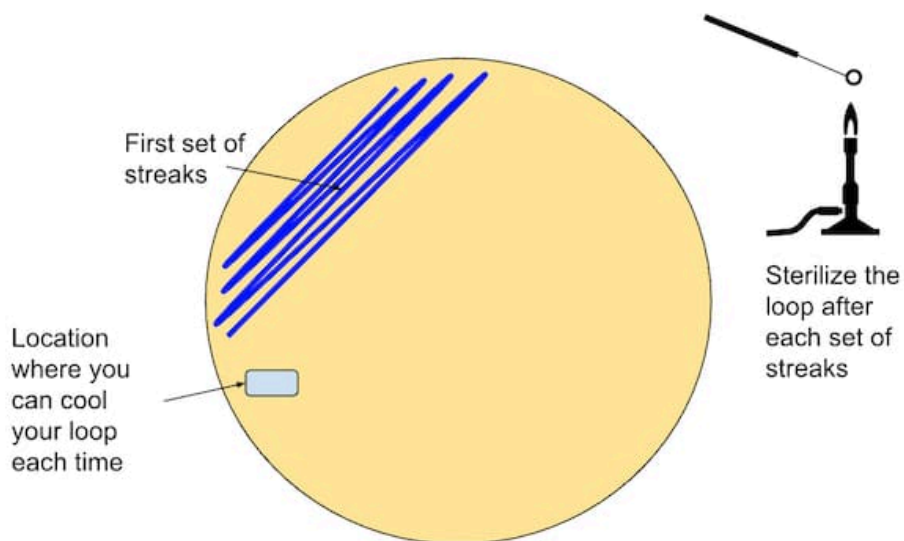

Figure 5.9
4. Create the first streaks following the pattern below (Figure 5.9)